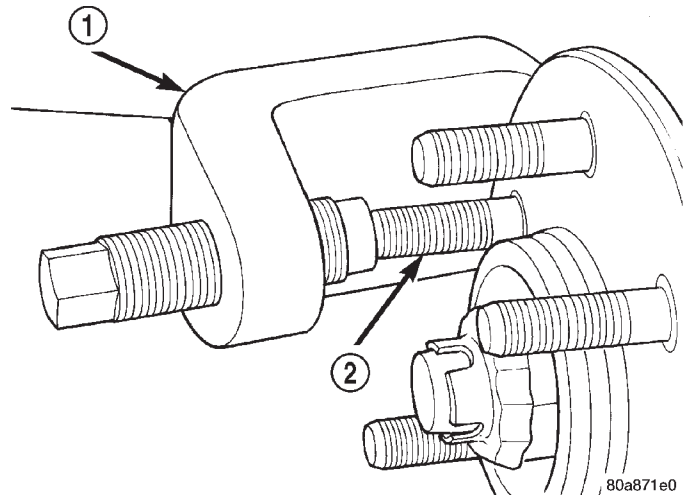

Fig. 15 Wheel Stud Removal
- (1) Raise and support vehicle.
- (2) Remove wheel and tire assembly.
- (3) Remove brake caliper and rotor, refer to Group 5 Brakes for procedure.
- (4) Remove stud from hub with Remover C-4150A (Fig. 15).